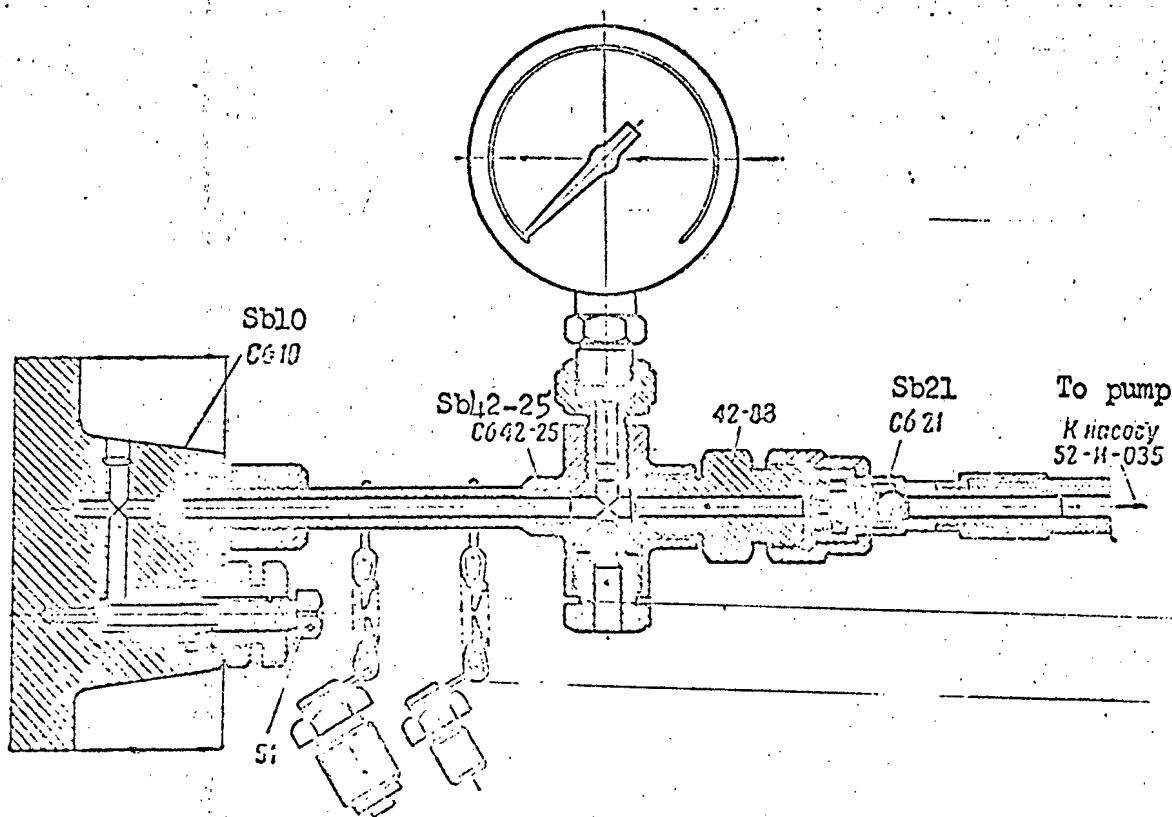

Fig. 36. Adding fluid or air to the counterrecoil cylinder.
- with wrench A52830-5 connect appliance Sb42-25 with manometer (Fig. 36);